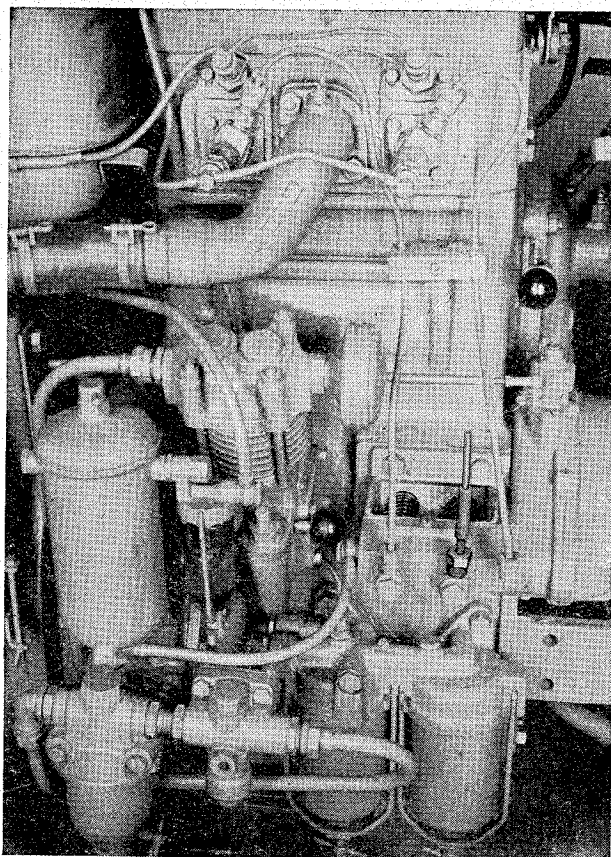

Fig. 41.
7. Screw on the capillary tube 4452.90 to the pump body (see Fig. 41) instead of the fuel feed pipe.